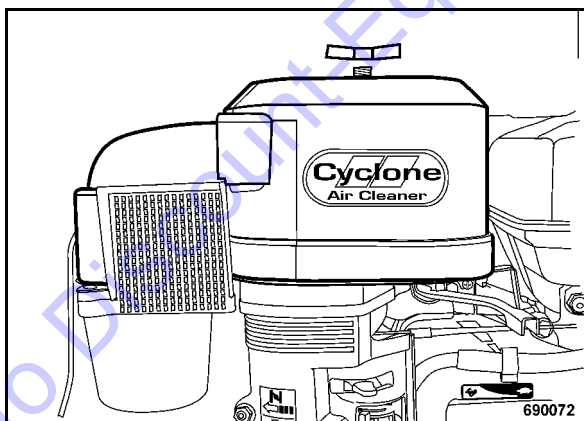

Fig. 70
- Unscrew the wing nut and remove the housing cover (Fig. 70).